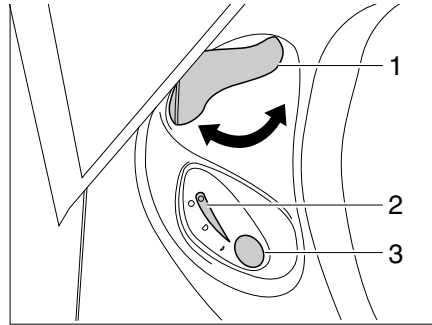

Fig. 363 Operating unit Thetford toilet
- Before flushing open the sliding trap of the Thetford toilet. To do this, turn the slide lever (Fig. 363,1) in an anticlockwise direction.
- For flushing, press the blue flush button (Fig. 363,3).
- After flushing close the sliding trap. To do this turn the slide lever (Fig. 363,1) in a clockwise direction.
The indicator lamp (Fig. 363,2) goes on whenever the Thetford cassette has to be emptied.
- Turn the slide lever (Fig. 363,1) in a clockwise direction. The sliding trap is closed. To empty, the sliding trap in the Thetford toilet **must** be closed.